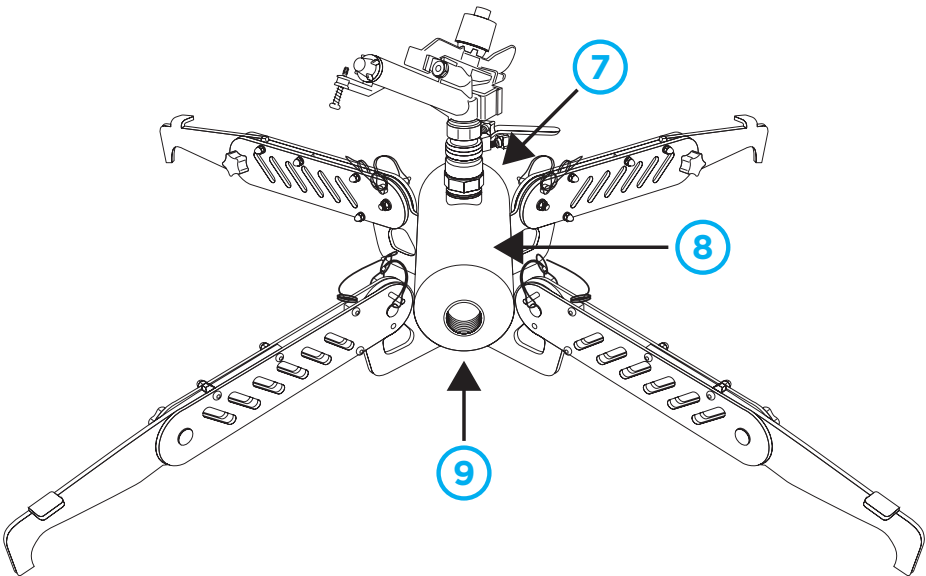

Figure 5.
- Attach one end of water supply hose / fire hose to water source and the other end to the threaded inlet/outlet **7** on the backside of the cannon manifold **8**, the one opposite the valve end, *Figure 5*.
- Attach a hose to the first water cannon on to the front threaded inlet/outlet valve , *Figure 5*.